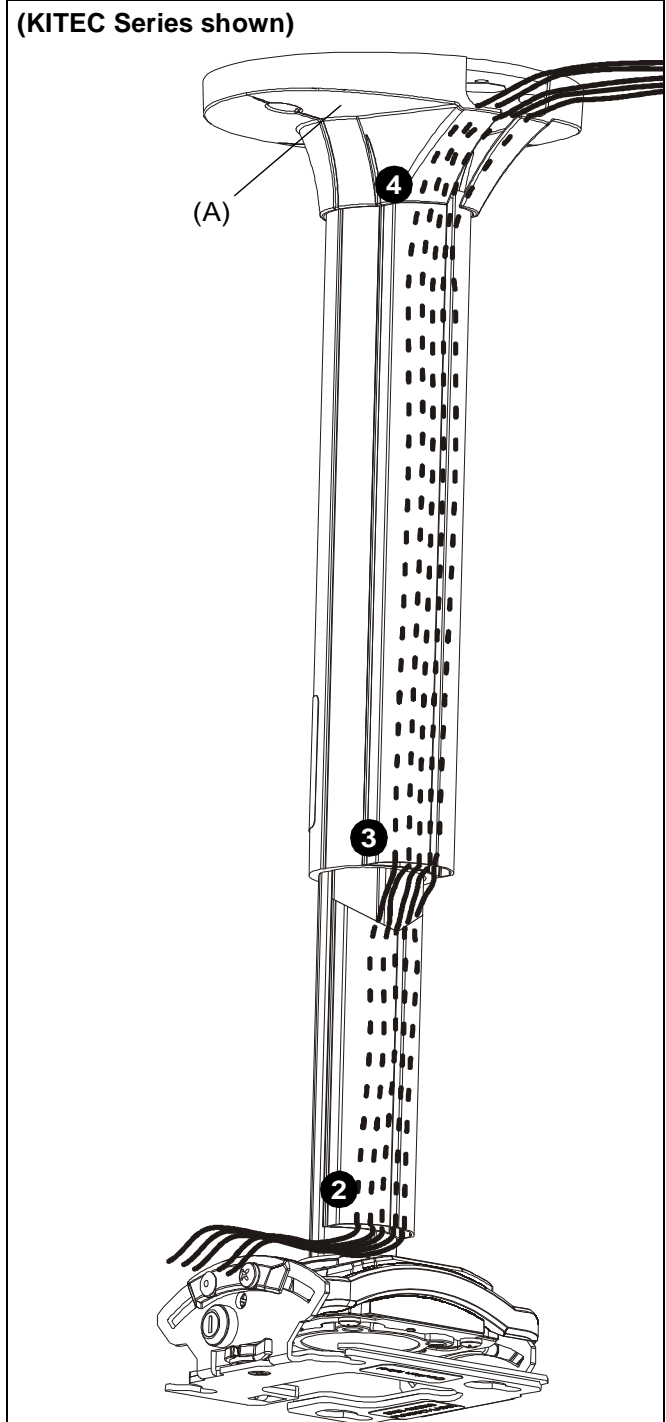

Figure 28
2. Route cables through lower cable cover. (See Figure 28)
3. Route cables through upper cable cover. (See Figure 28)
4. Route cables through ceiling plate cover (A). (See Figure 28)